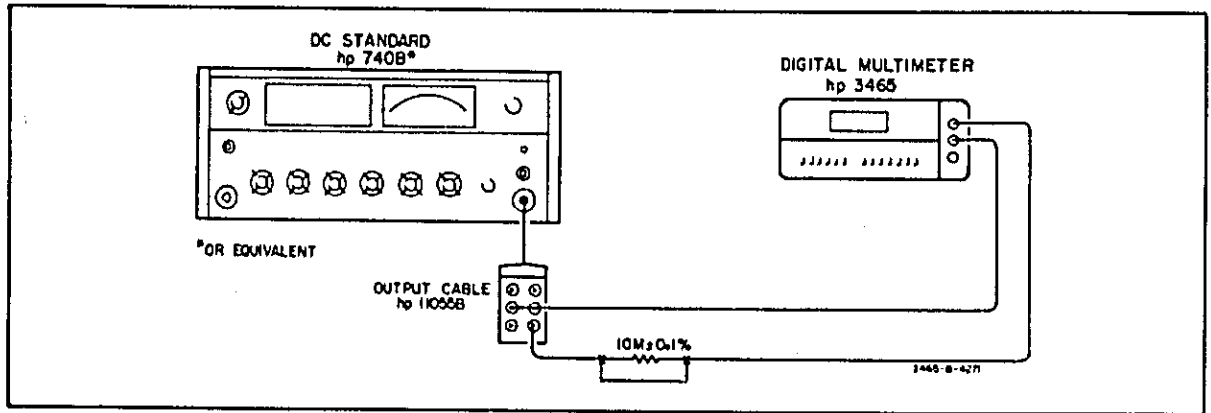

Figure 5-7. DC Voltmeter Input Resistance Test.
- a. Connect the Multimeter, DC Standard and resistor as shown in Figure 5-7.